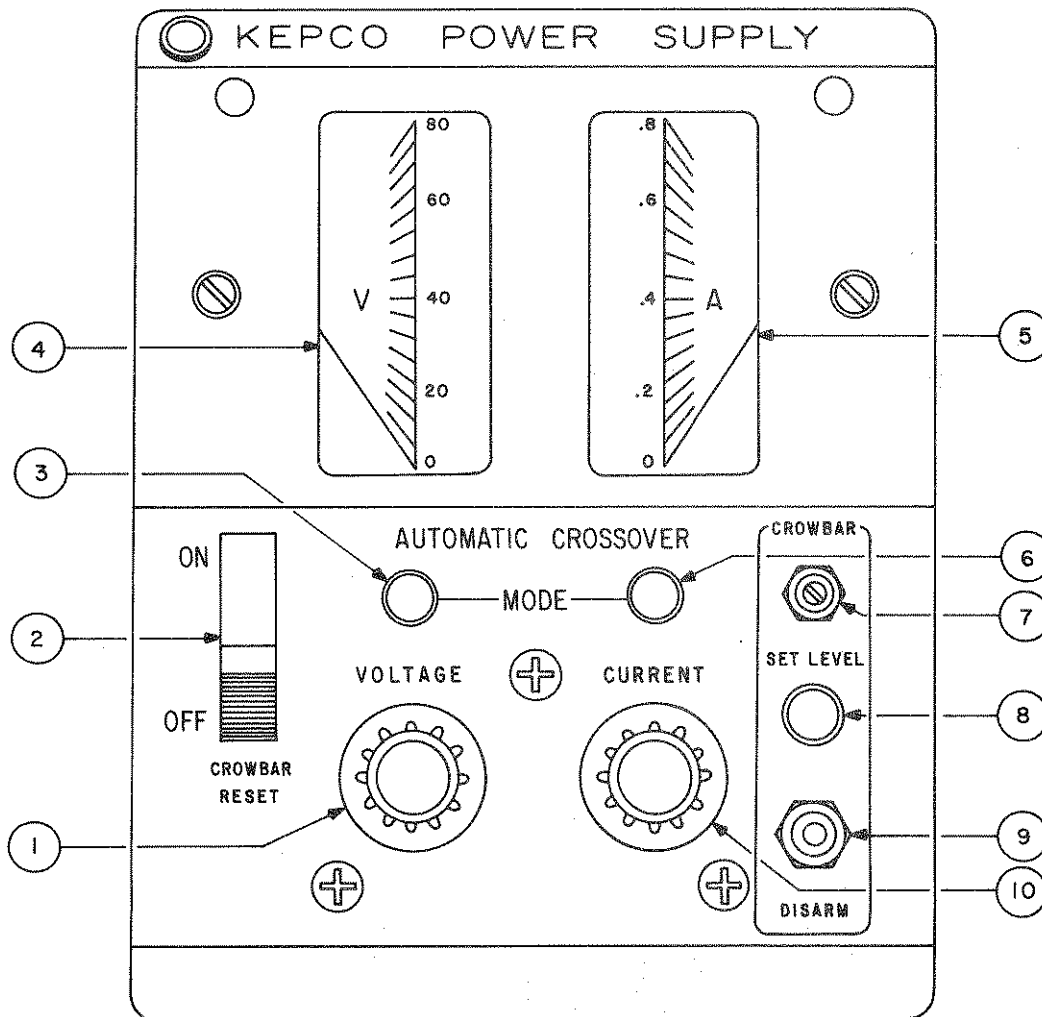
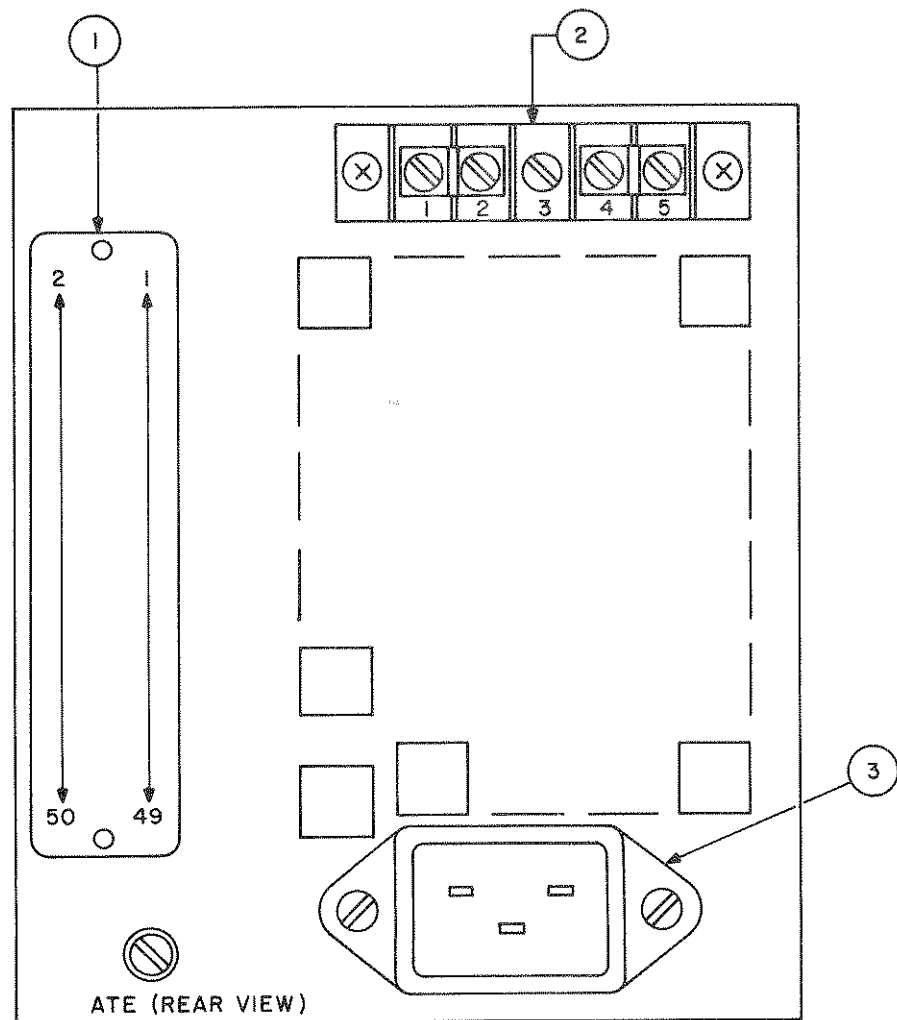

FIG. 2-2 CONTROLS AND TERMINATIONS, ATE 1/4 RACK GROUP, FRONT.
FIG. 2-3 TERMINATIONS, ATE 1/4 RACK GROUP, REAR.
- FRONT PANEL: Refer to FIG. 2-2 and Table 2-2.
- REAR: Refer to FIG. 2-3 and Table 2-3.
- 2-9 A simple operating check after unpacking and before permanent installation is advisable to ascertain whether the power supply has suffered damage resulting from shipment. Refer to FIG. 2-2 and to FIG. 2-3 for the location of the operating controls and output terminals.
- To reset the adjusted crowbar point, press DISARM button again and advance VOLTAGE CONTROL clockwise. Note voltage at which the CROWBAR INDICATOR lights up. Readjust LEVEL control if necessary, by repeating step (2) and check again by repeating steps (3) and (4).